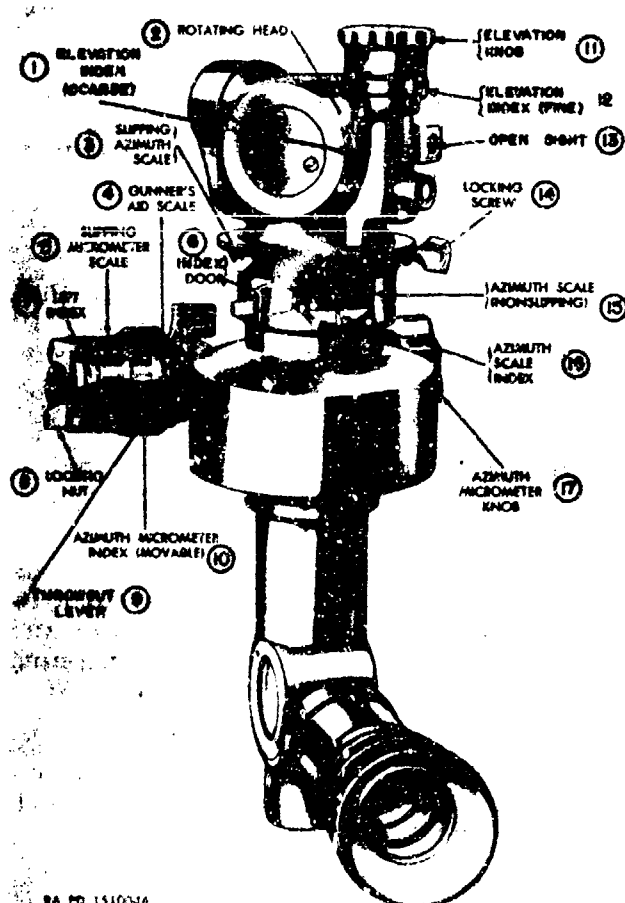

Figure 3-13. Panoramic telescope M12A7S.
*a.* The panoramic telescope M12A7S (fig 3-13) is a 4-power, fixed-focus, fire control instrument that may be used for either direct or indirect fire.